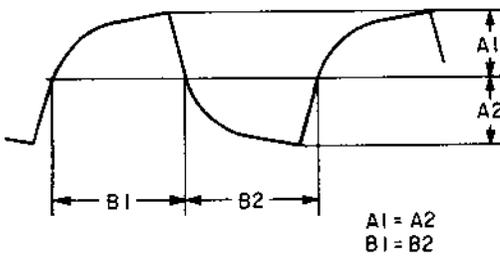
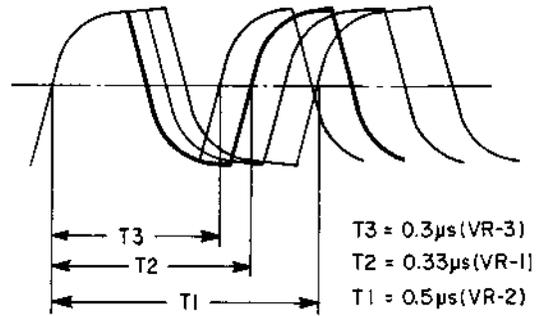

Fig. 2-26
Fig. 2-27
(1) MODULATOR BALANCE ADJUSTMENT (Stop Mode)
- c) Adjust TC1 so that the positive and negative part of waveform is equal as shown in Fig. 2-26.
(2) FREQUENCY DEVIATION ADJUSTMENT (Stop Mode)
- c) Adjust VR2 so that T_1 in Fig. 2-27 is $0.5 \mu\text{s}$ (2 MHz).
- d) Adjust VR1 so that T_2 in Fig. 2-27 is $0.33 \mu\text{s}$ (3 MHz).